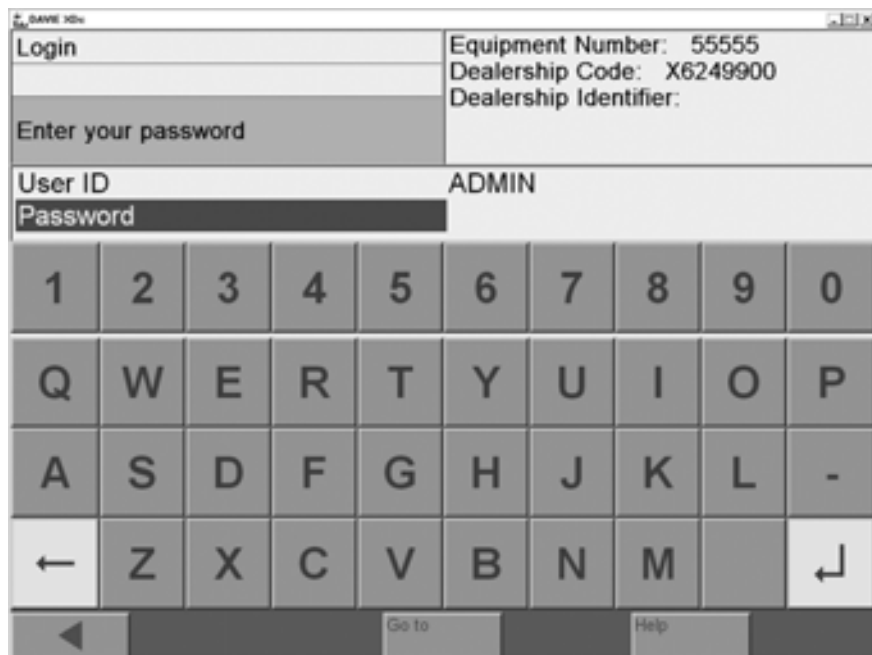

Figure 4-3 "Login" screen: entering the password
2. The screen in Figure 4-3 is displayed. Under "User ID", enter "ADMIN" and press the "Return button" on the keyboard.